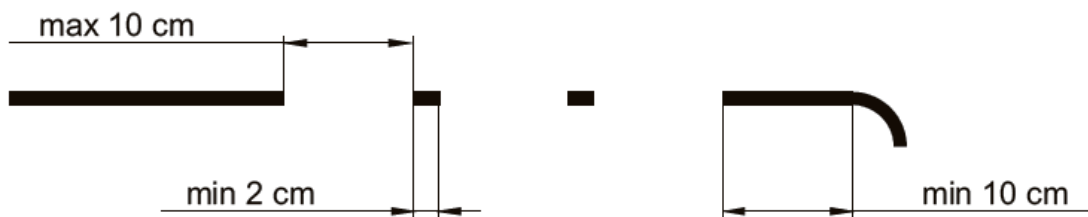

Figure 1: Line break
- There are line breaks on track sections (see Figure 1) with a maximum length of 10 cm. Before the curve, there is at least 10 cm long and uninterrupted section of the track line. Line breaks may occur sequentially, but between two line breaks, there is at least 2 cm long track line.